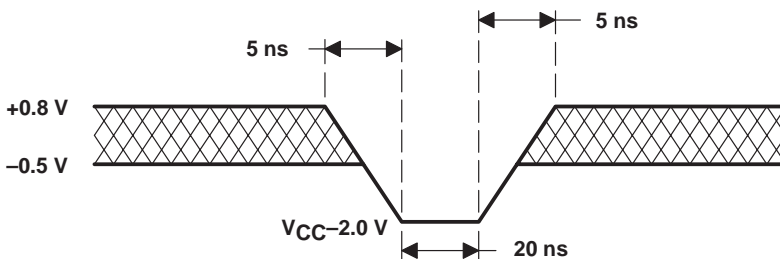

Figure 7. Maximum Negative Overshoot Waveform
5. The voltage on any input or output can undershoot to - 2 V for periods of less than 20 ns. See Figure 7.